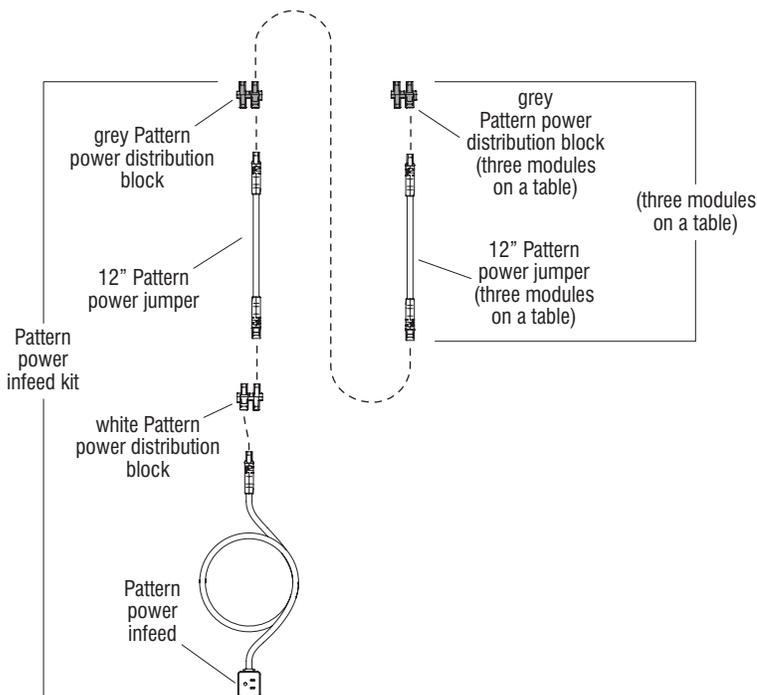

Figure 1 - (top view)
1. For a run of tables, start Pattern electrical system assembly with the table that will contain the Pattern power infeed. Locate one Pattern power infeed, one white power distribution block, one grey power distribution block and one 12" Pattern power jumper. Plug the power infeed into the white power distribution block first, as illustrated (Figure 1 & Detail A).
2. Plug the female end of the 12" power jumper into either male port opposite to the power infeed connection on the white distribution block (Figure 1 & Detail A).
3. Plug the previously installed (step 2) 12" Pattern power jumper end into a grey power distribution block as illustrated (Figure 1 & Detail B).
4. If the designated power infeed table contains three power modules, an additional 12" Pattern power jumper and grey Pattern power distribution block on the end will be required after the first grey distribution block (Figure 1).